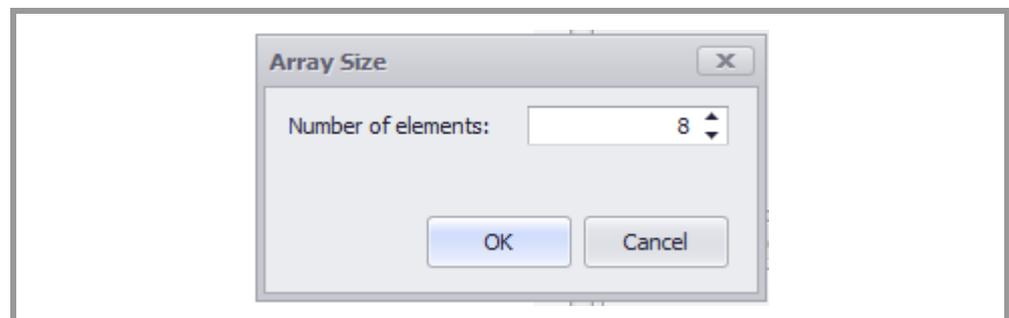

Fig. 36 Assign the last dimension of the multi-array dimensions to the array
2. Set the array with the last dimension of the tag (`_arr3Dim_Variable INT[2,3,8]`), as shown in Fig. 36.